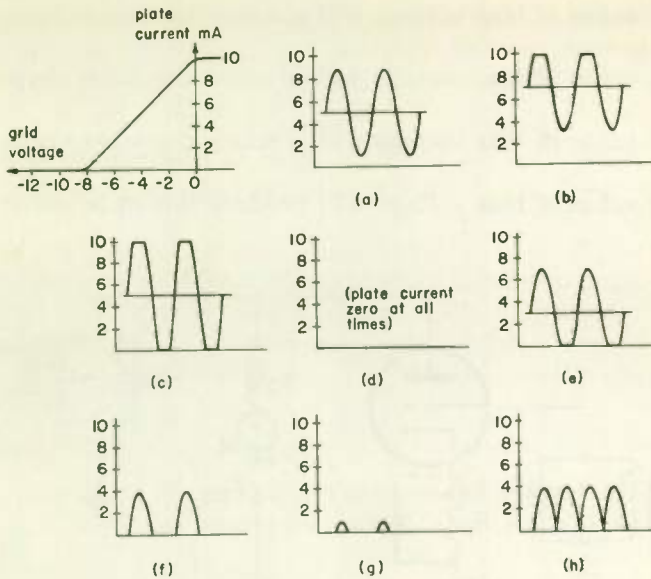

Fig. 46
27. Figure 46(a) through (h) are output wave shapes obtained when a signal with peak value of 3 volts is applied to an audio amplifier under various bias conditions, using a tube with E_g-I_p characteristics as shown. What value of grid bias voltage will produce the wave shape of (a)?